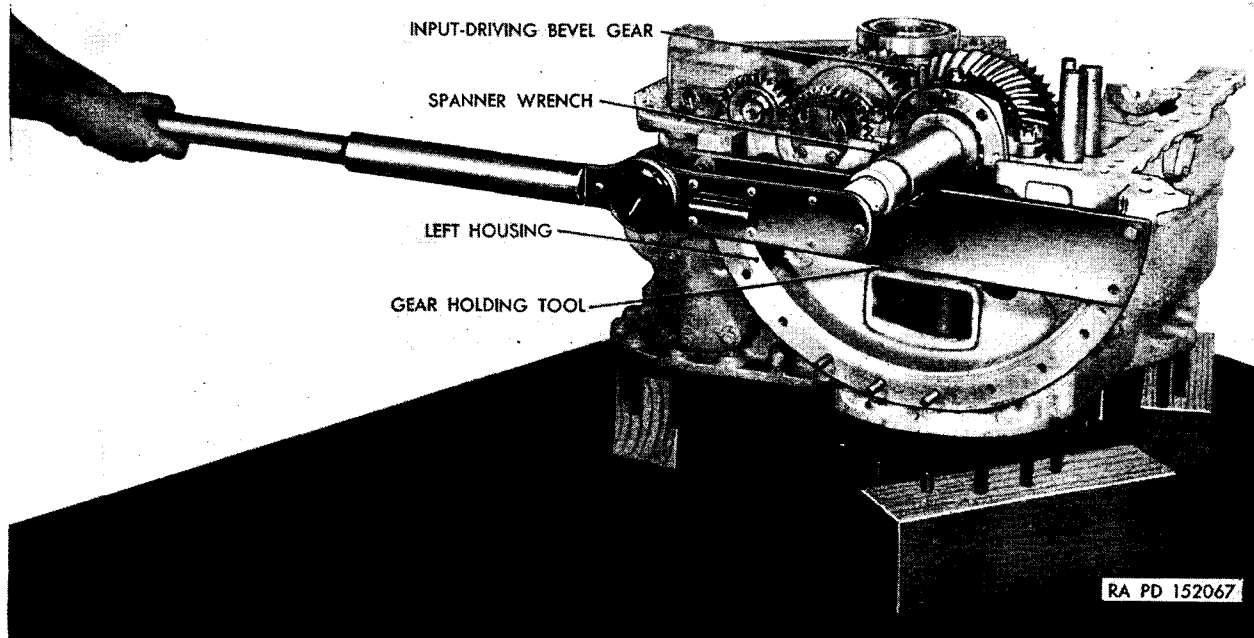

Figure 328. Installing input-shaft lock nut.
- (1) Install the input-bevel-gear locking tool on the front end of the housing. Install the spanner wrench on the input-shaft lock nut (fig. 237). Refer to paragraph 56d(1). Using a torque wrench, torque the nut to 350 pound-feet minimum (fig. 328).